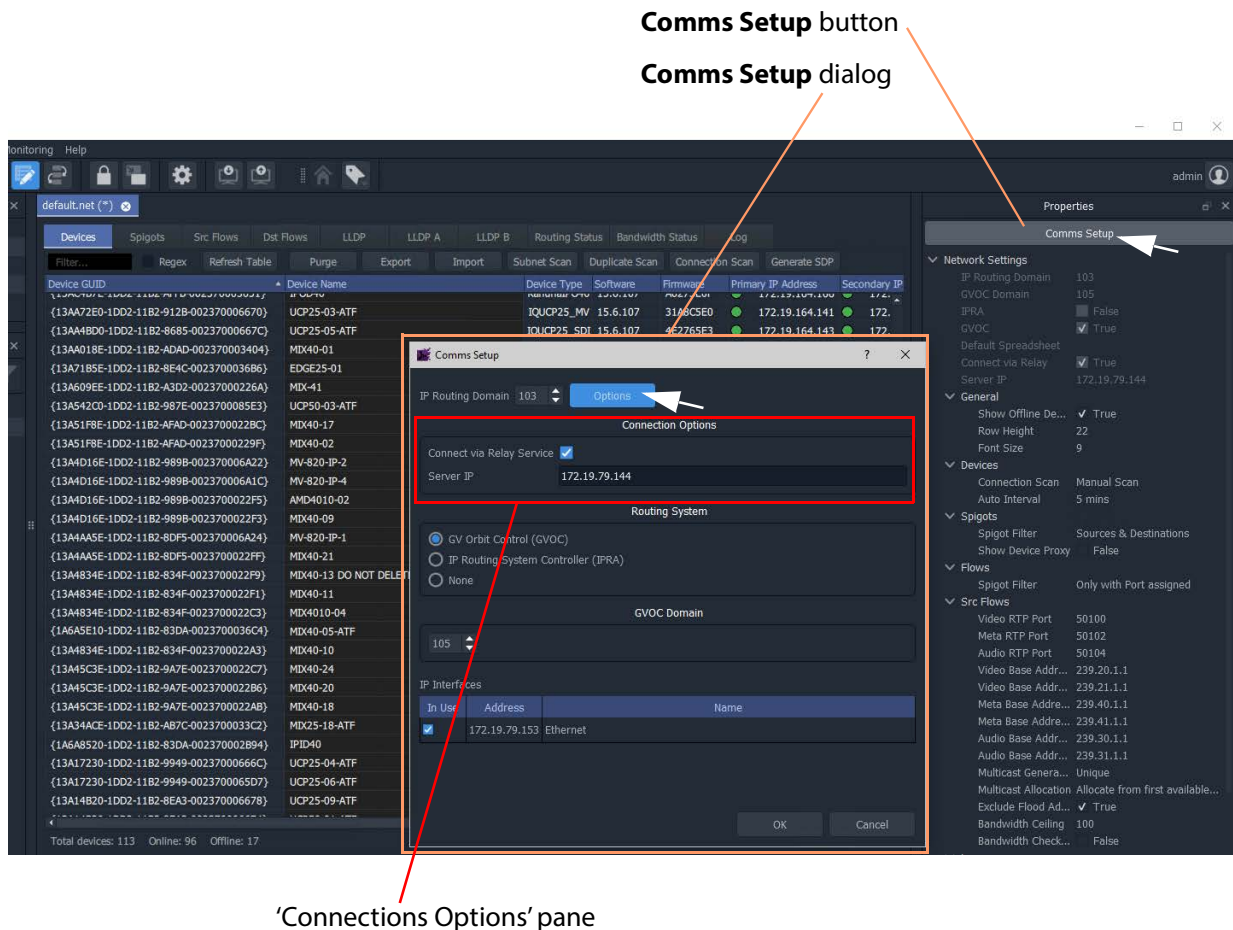

Figure 9: Comms Setup Button and Dialog in a GV Orbit Network Project
- 2 Click on the **Comms Setup** button to open the **Comms Setup** dialog. See Figure 9.